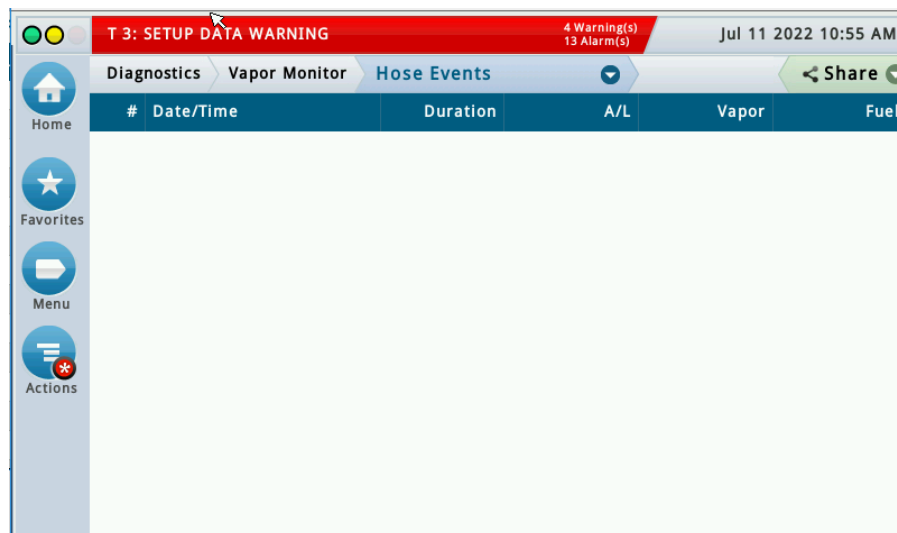

Figure 66. Vapor Monitor Hose Events Screen
1. Touch Menu>Diagnostics>Vapor Monitor (Figure 65), then touch Hose Events (Figure 66).